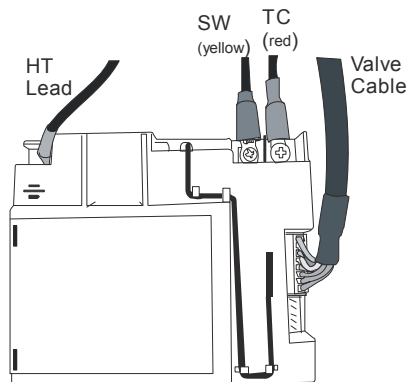

Figure 80
3. Feed the cables from the valve through the heat shield and connect to the receiver as shown in **Figure 80**, keeping the cables clear of the underside of the tray. Do not force the valve cable plug when inserting into the receiver – it only fits one way.